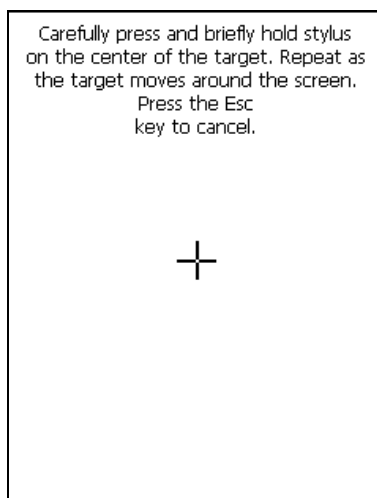

Figure 2
4. Tap **Recalibrate** to open the **Calibration** screen shown in Figure 2.